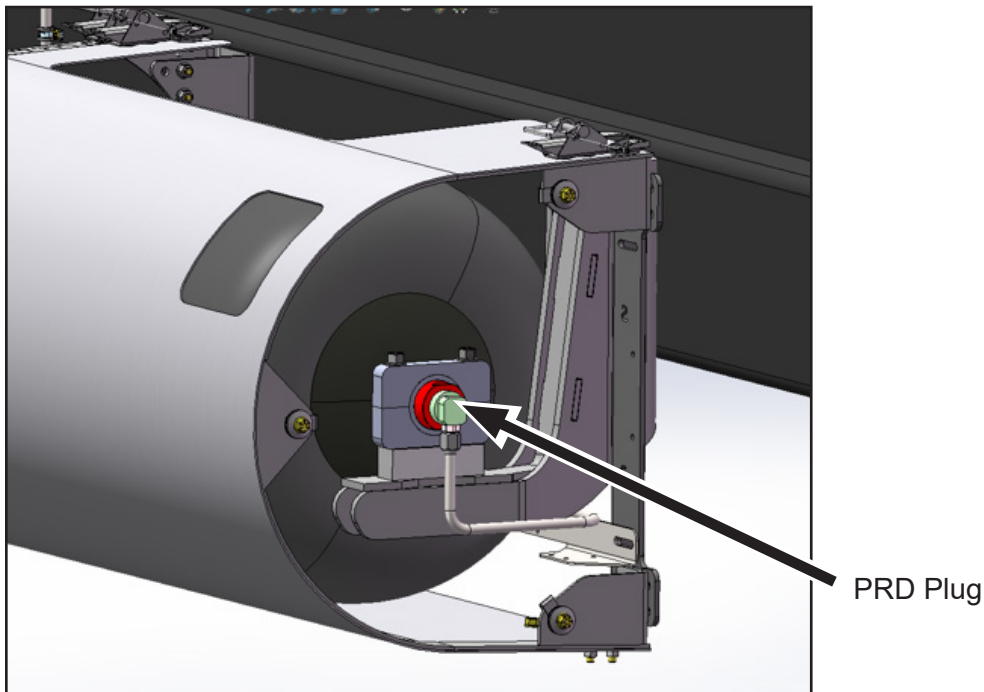

Figure 3
6. Disconnect PRD vent line and remove PRD plug (PN 1519024) (Figure 3).